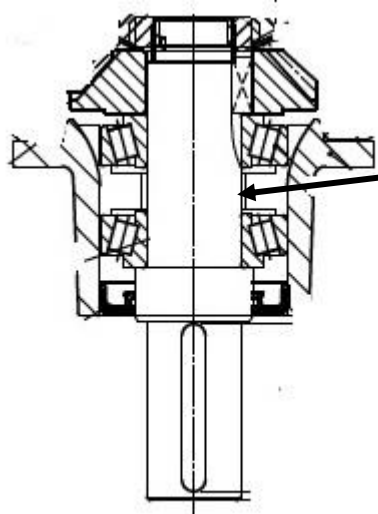

Figure 115
4. Remove the bearings from the shaft by pressing the bearings and gear off the shaft. Figure 115